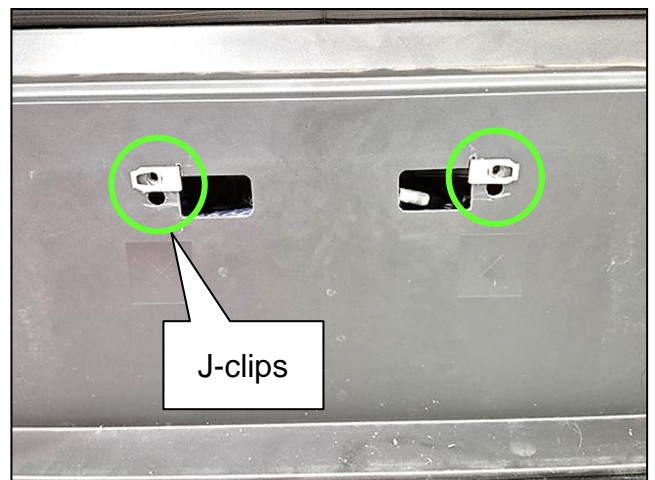

Figure 13
8. Install the two (2) J-clips in the new locations, as shown in Figure 13.